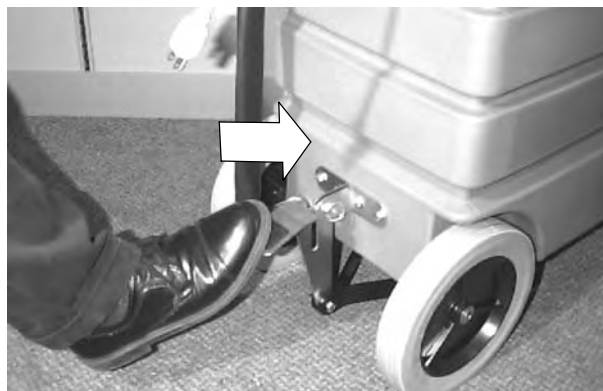

FIG. 10
2. Lower squeegee to floor, lightly kick pedal forward to release from transport position (Figure 10).